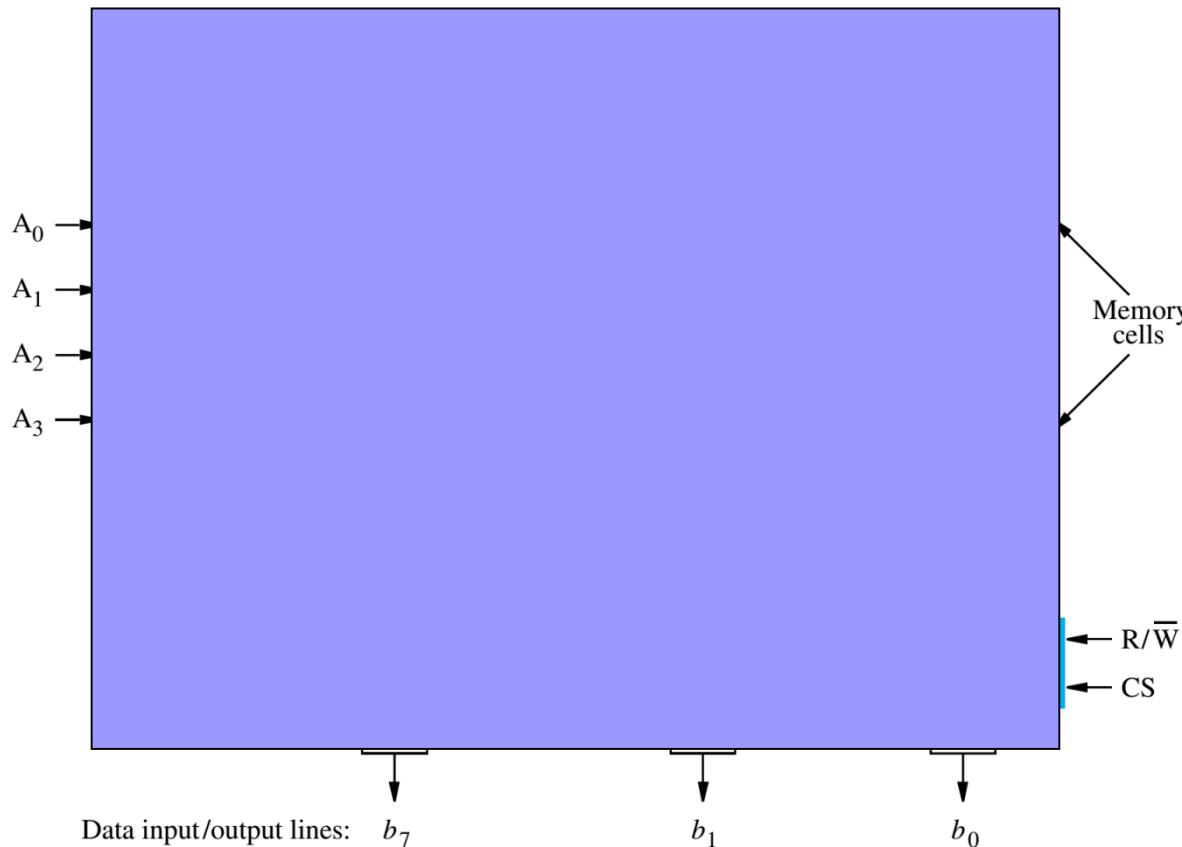

Figure 8.2 Organization of bit cells in a memory chip.
- Figure 8.2: a matrix of 16 row \times 8 column